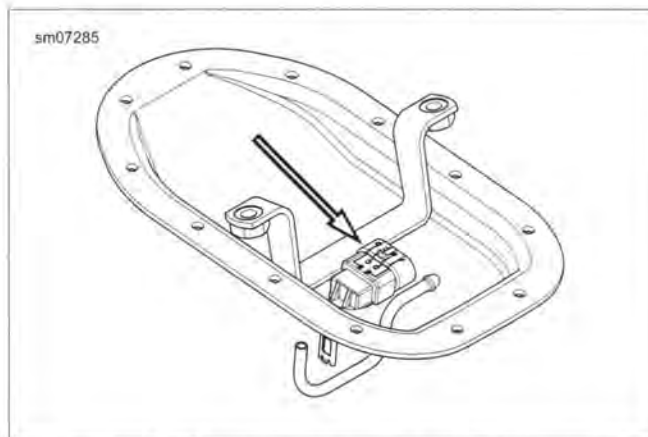

Figure 4-31. Fuel Pump Connector [141] (Typical)
- a. See Figure 4-31. Disconnect the fuel pump module connector from the tank plate.